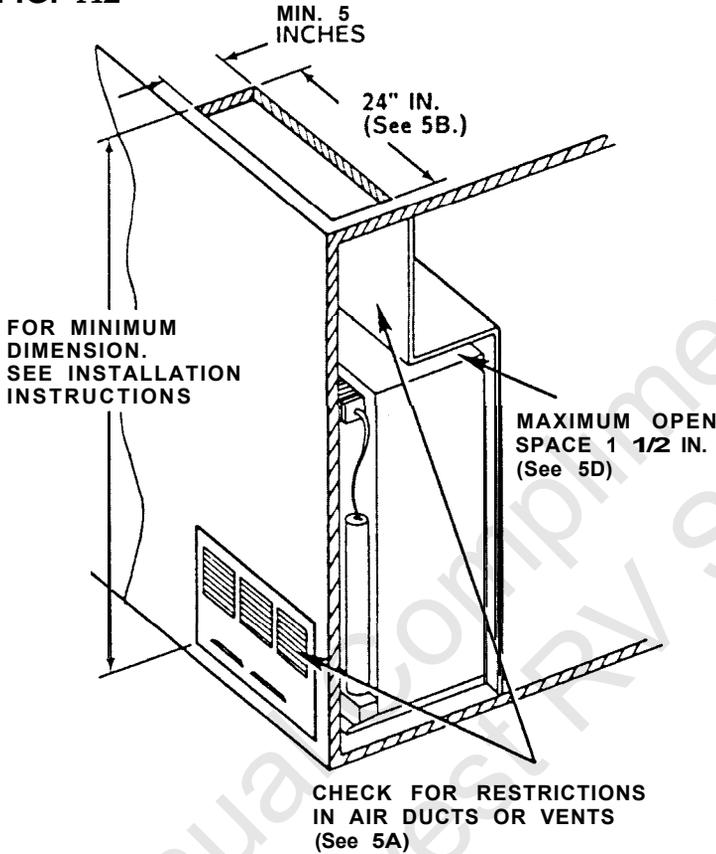

**FIG. A1**
3. Make sure the refrigerator is level. Sometimes the vehicle is level but the refrigerator is not, due to improper installation. Place a level on the bottom of the freezer compartment and check side-to-side and front-to-back levels (see FIG. A1). Use a mirror, if necessary to read the level.